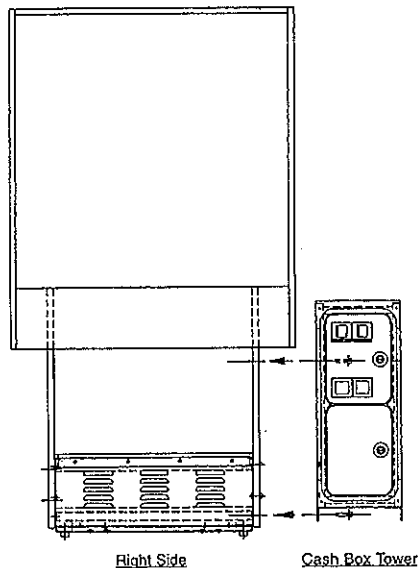

FIGURE 3: RIGHT-SIDE CABINET INSTALLATION
2. Attach the Cash Box Tower to the inner panel of the Right-side Cabinet (see Figure 3) by lifting up the Cash Box tower and slipping the lower two slotted holes in the tower side over the lower two bolts and split washers on the Right-side Cabinet. Watch out for the sloping lower edge of the Right-side Cabinet monitor when lifting and installing the Cash Box Tower. The fender (large) washer stays between the Right-side Cabinet and the Cash Box Tower. Be sure that the cables retract into either the cabinet or Cash Box Tower without kinking. Do not tighten the bolts yet.